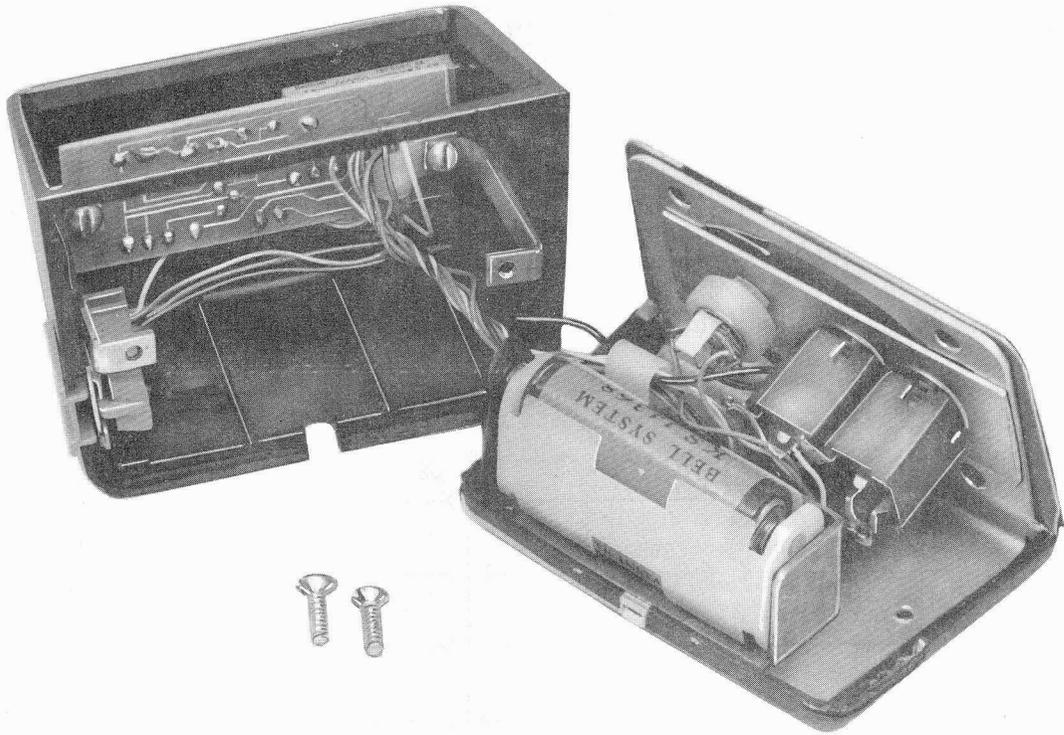

Fig. 2—Control Unit, Cover Removed
**3.03** Turn the 87A control unit upside down and remove the two screws in the bottom. Hold the unit in the left hand with the front face toward the right hand. Place the right thumb on the front center jack, and push toward the case bottom. Front face and bottom will slide out of housing. Cables will hold the housing and front together (Fig. 2).